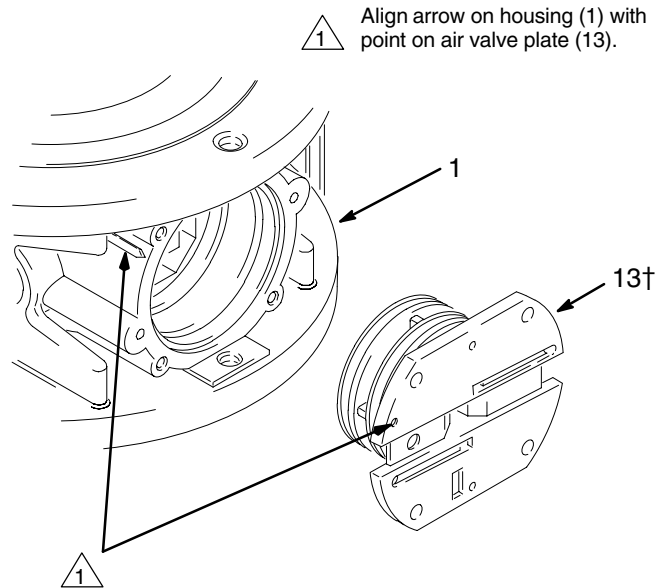
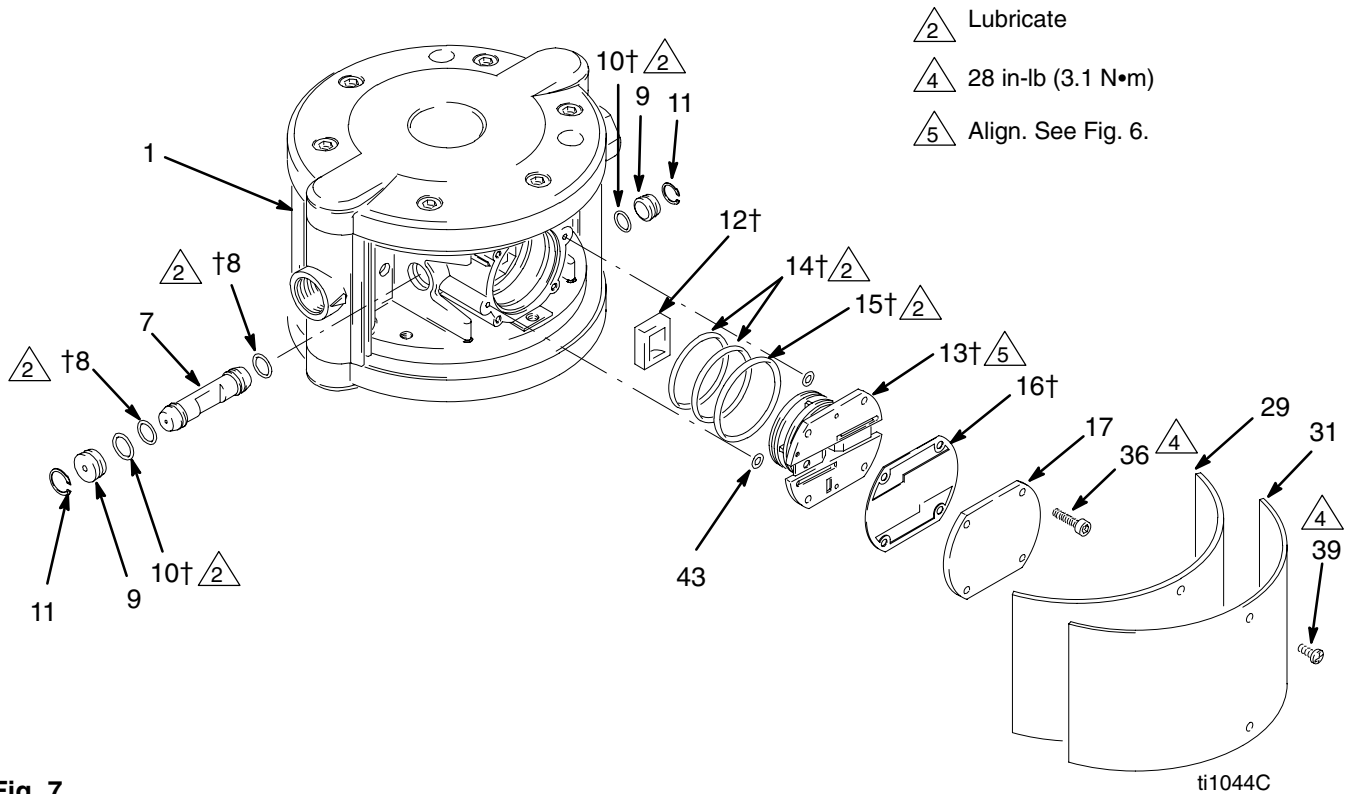

Fig. 6
Fig. 7
1. Remove the side cover (31) and felt dampener (29).
2. Remove the four screws (36), air valve cover (17), and gasket (16). See Fig. 7.
3. See Fig. 6. Note the orientation of the air valve plate (13). Pull the plate out of the center housing (1). Remove the three o-rings (14, 15) and the two o-rings (43) from the plate. See Fig. 7.
4. Remove the air valve cup (12) from the center housing (1).
5. Remove the retaining rings (11) and plug (9) from both sides, and slide the carriage (7) from the center housing (1). Remove the o-rings (8, 10) from the carriage and the plug.
1. Lubricate the o-rings (8†) and install them on the carriage (7). Slide the carriage into the center housing (1) so the notch faces out, as shown in Fig. 7.
2. Lubricate each o-ring (10†) and install them on the plugs (9). Insert a plug in each side to secure the carriage (7). Install the retaining rings (11) to hold these parts in place.
3. Install the air valve cup (12†) in the notch of the carriage (7) so the open side faces out.
4. Install two o-rings (43) in the counterbore of the air motor.
5. Lubricate the large o-ring (15†) and the two small o-rings (14†) and install them on the air valve plate (13†). Align the point on the plate with the arrow on the center housing (1) as shown in Fig. 6. Install the plate in the housing.
7. Reinstall the air valve cover (17) and screws (36). Torque the screws to 28 in-lb (3.1 N•m).
9. Reinstall the felt dampener (29) and side cover (31). See page 14.